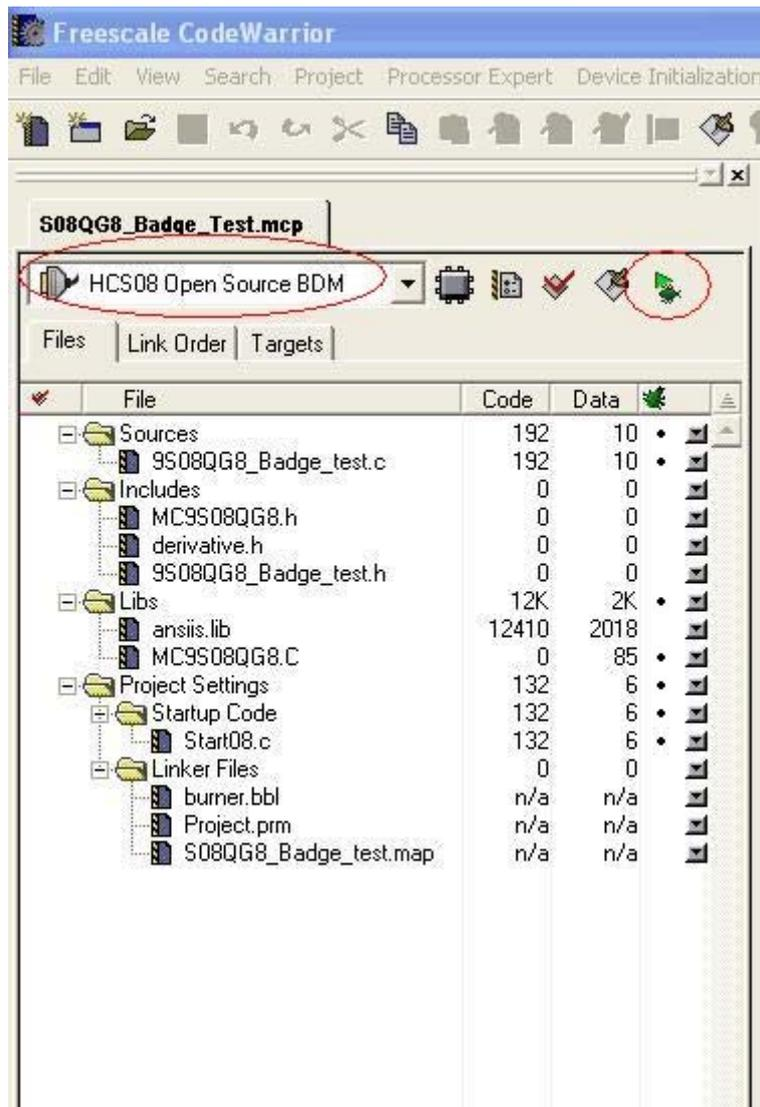

Figure 12: Selecting OpenSourceBDM target
- 8- Once the debugger is started, a warning window should pop-up telling that the current application execution will stop, click ok to continue (see Figure 12)